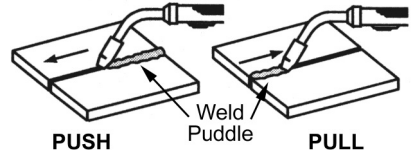

Figure 11. Travel Direction
1. **TRAVEL DIRECTION** is the direction the torch is moved along the weld joint in relation to the weld puddle. The torch is either PUSHED (see Figure 11) into the weld puddle or PULLED away from the weld puddle.